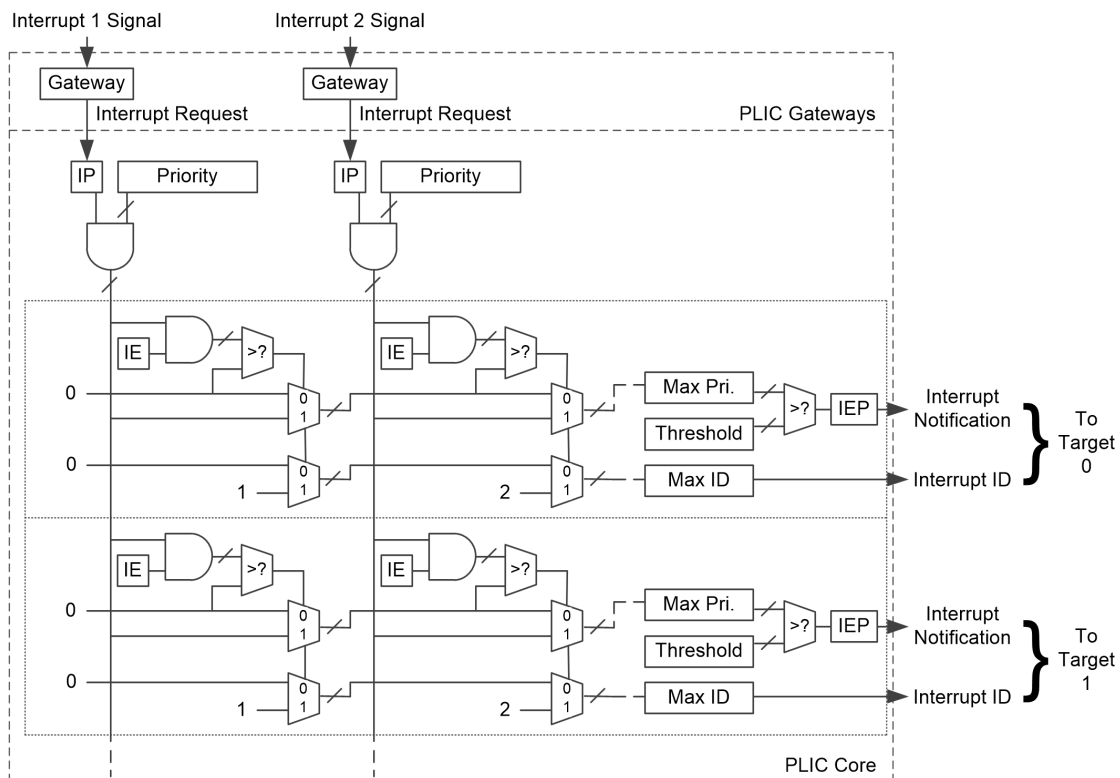

Figure 5.3. Platform-Level Interrupt Controller (PLIC) conceptual block diagram.
Platform-Level Interrupt Controller prioritizes and distributes global interrupts in a RISC-V system. Figure 5.3 provides a quick overview of PLIC operation. The PLIC connects global interrupt sources to interrupt targets, which are usually hart contexts. The PLIC contains multiple interrupt gateways, one per interrupt source, together with a PLIC core that performs interrupt prioritization and routing. Each interrupt source is assigned a separate priority. The PLIC core contains a matrix of interrupt enable (IE) bits to select the interrupts that are enabled for each target. The PLIC core forwards an interrupt notification to one or more targets if the targets have any pending interrupts enabled, and the priority of the pending interrupts exceeds a per-target threshold. When the target takes the external interrupt, it sends an interrupt claim request to retrieve the identifier of the highest-priority global interrupt source pending for that target from the PLIC core, which then clears the corresponding interrupt source pending bit. After the target has serviced the interrupt, it sends the associated interrupt gateway an interrupt completion message and the interrupt gateway can now forward another interrupt request for the same source to the PLIC.